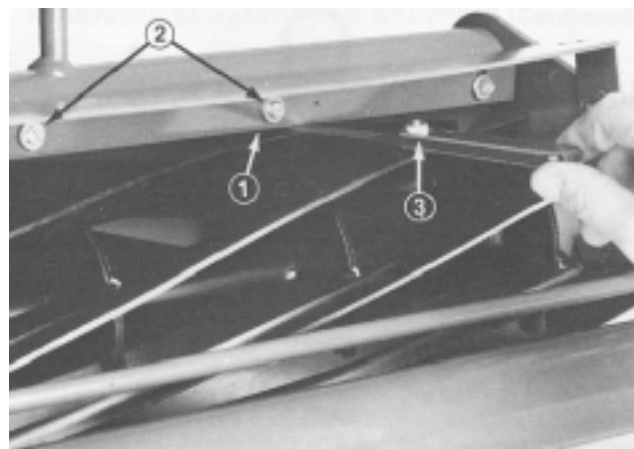

Figure 6
1. Loosen the screws securing the top bar (Fig. 6). Insert a 0.06 in. (1.5 mm) feeler gauge between the top of the reel and bar and tighten the screws (Fig. 6). Ensure that the bar and reel are an equal distance apart across the complete reel.
3. Place the bar across the front and rear rollers and adjust the height-of-cut knob until the underside of the screw head engages the bedknife cutting edge (Fig. 6).